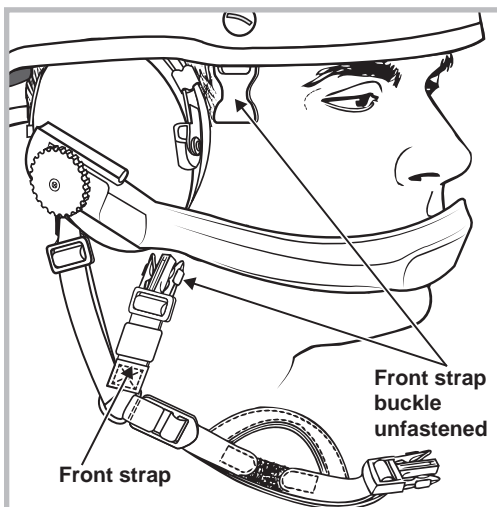

Figure 4. Front Strap Unfastened
- a. On the side of the helmet closest to the headset microphone, unfasten the front strap buckle (**Figure 4**).